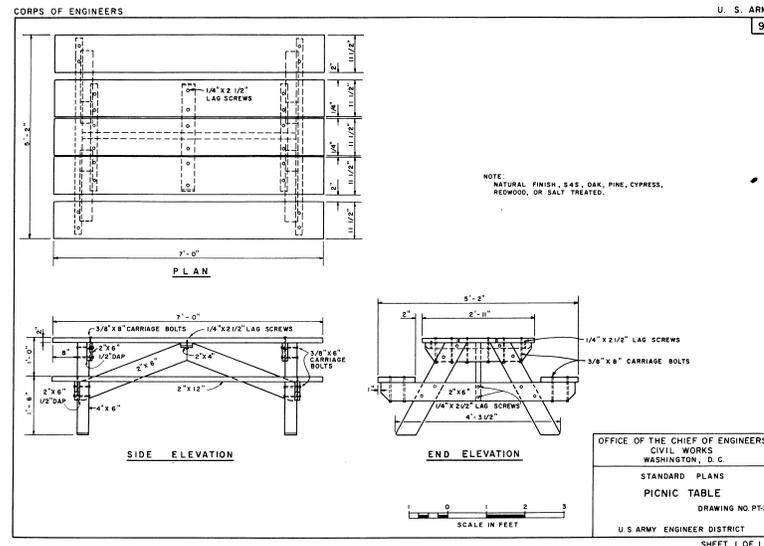

Figure 4-37
4.11 **Detail Layout.** Set the details in a sequential flowing logical order, see example figure 4-37. If the detail contains a plan view, place the plan view in the top-left corner of the sheet file. When the details are laid out set all the views and sections in proper orientation to each other.